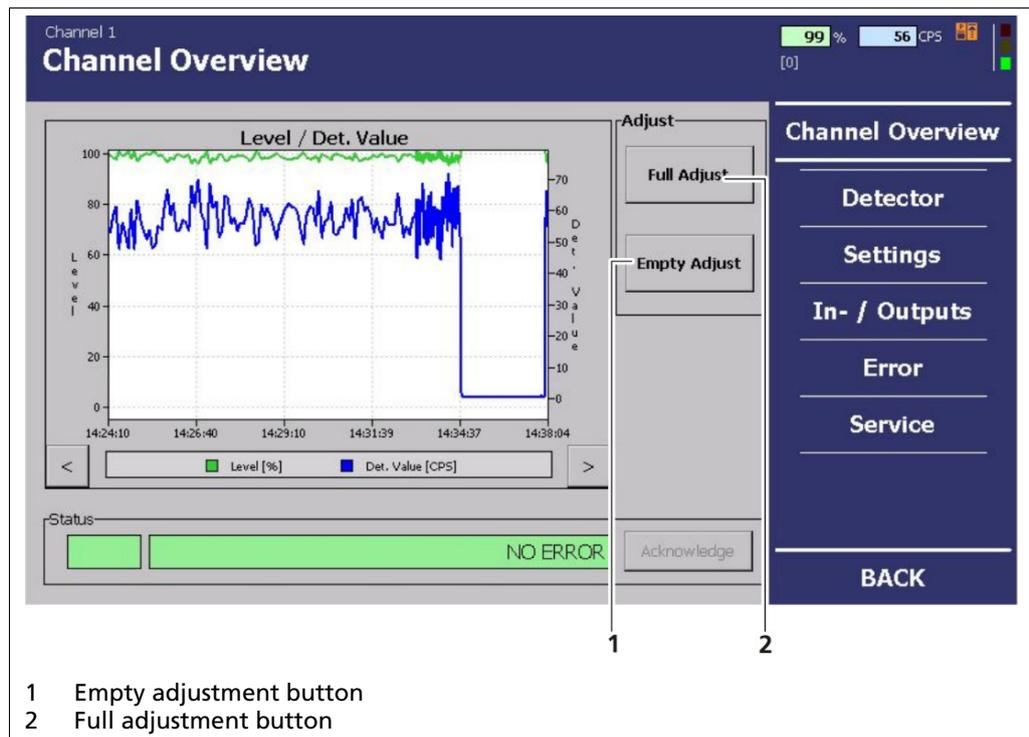

Fig. 52 Menu "Channel Overview", Adjust
- ▶ The "Channel Overview" menu (Fig. 52) opens.
2. Click on **<Empty Adjustment>** to carry out an empty adjustment (reading in the 0% value) (Fig. 52, Item 1). Alternatively, you can close digital input 1. In this case, no confirmation message opens, and the empty adjustment can be started directly from the casting platform.
3. If a full adjustment (100% value) is carried out, click on **<Full Adjustment>** (Fig. 52, Item 2). Alternatively, you can close digital input 2. In this case, no confirmation message opens, and the empty adjustment can be started directly from the casting platform.